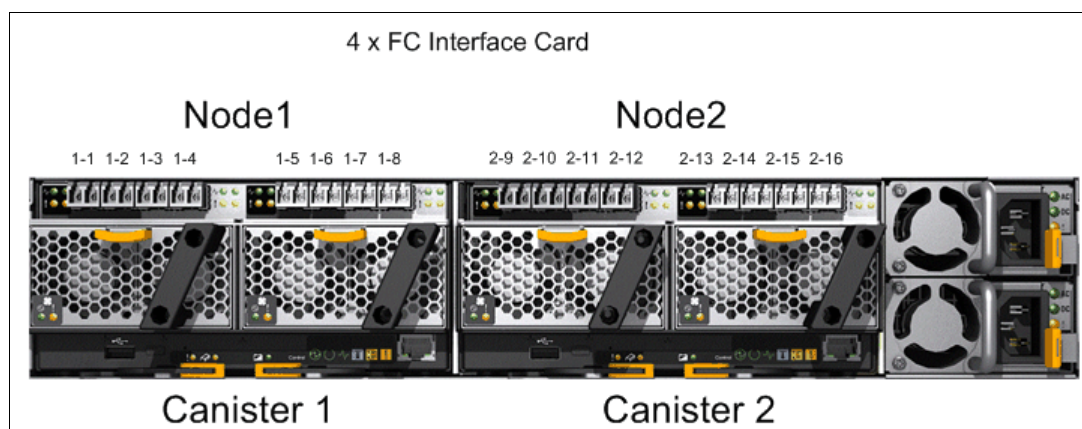

Figure 6-17 I/O port logical numbering
Figure 6-17 shows the logical numbering of the FC ports.
**Note:** The physical numbering and the logical numbering of the ports are not the same. The physical numbering of the ports of the interface cards starts from the left with P1 and P4 to the right, depending on the configuration. Logical numbering depends on the node name and these node names can swap, so the port names depicted in Figure 6-17 are the default names, but they might change.